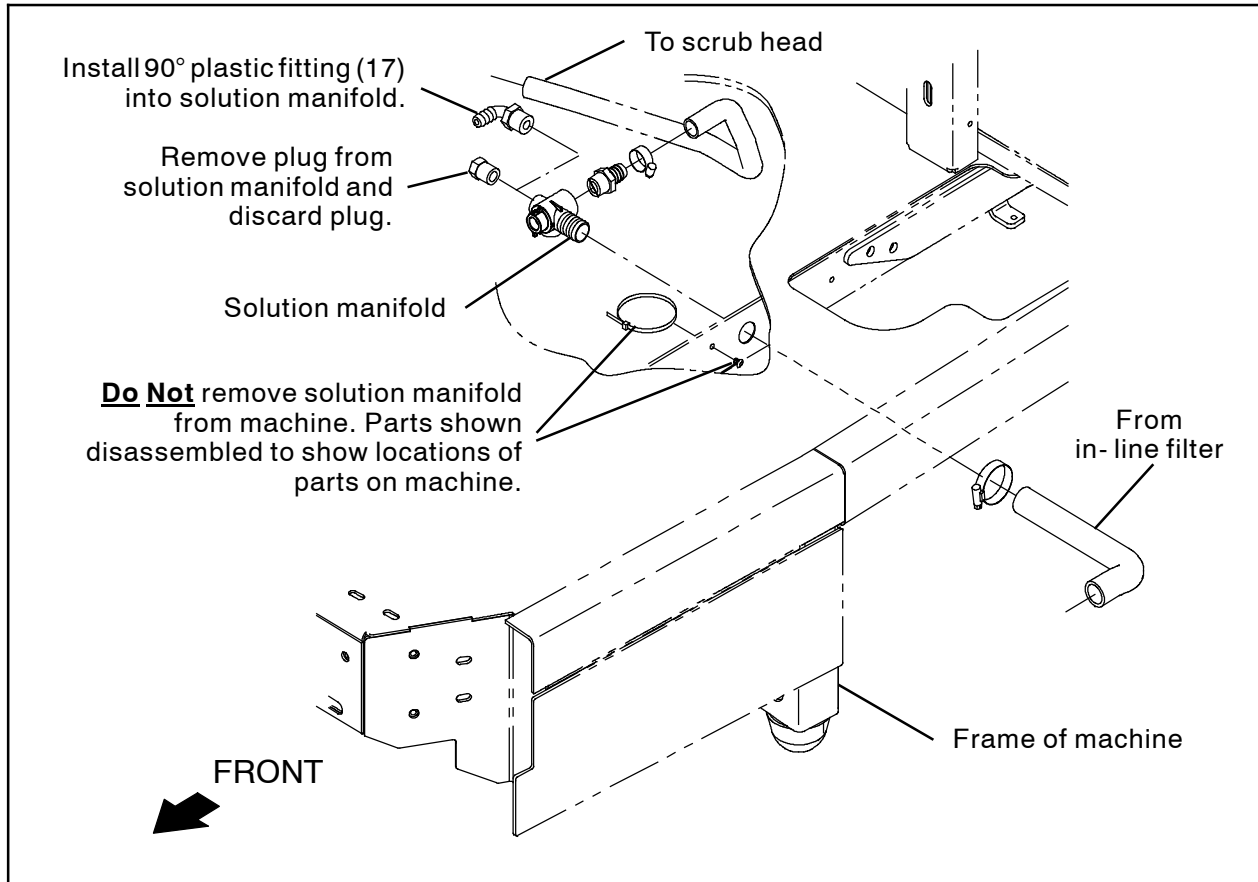

FIG. 2
Discard the plug. (Fig. 2)
6. Install the 90° plastic fitting (17) into the solution manifold. (Fig. 2)
7. Route the 21 in. (533 mm) PVC hose (16) already installed on the detergent pump assembly to the solution manifold. (Fig. 2 / Fig. 2)